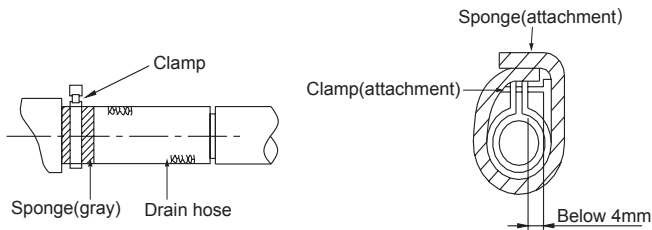

Fig.10
- (5) Use the attached drainage hose and clamp. Insert the drainage hose into the drainage socket up to the grey tape(as Fig.10).
- (6) Tighten the clamp until the screw head is less than 4 mm from the hose(as Fig.10).
- (7) Wrap the big sealing pad around clamp of the drainage hose to insulate.
- (8) Insulate the drainage hose inside the room.